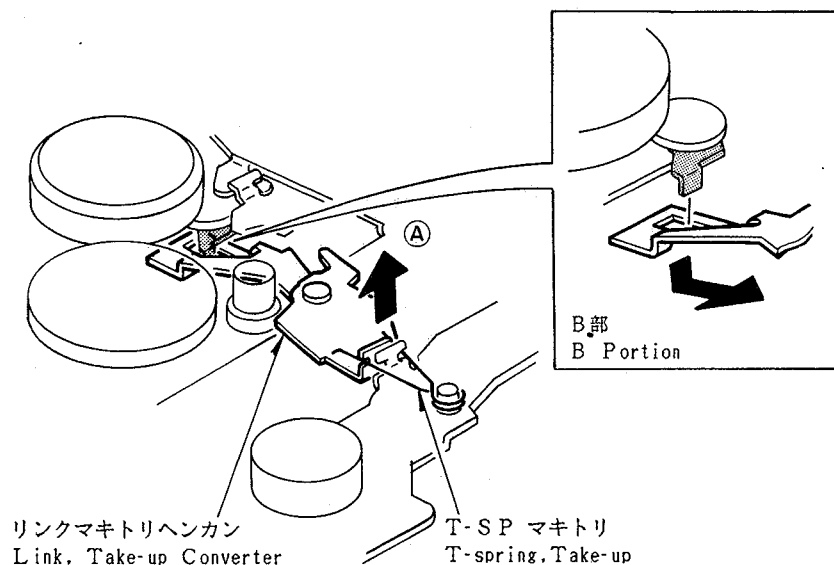

Fig. 7
(Fig. 7 参照)
- 2) Pick up the portion ① of the Link, Take-up Converter and detach it, taking care of the portion B. (See Fig. 7)